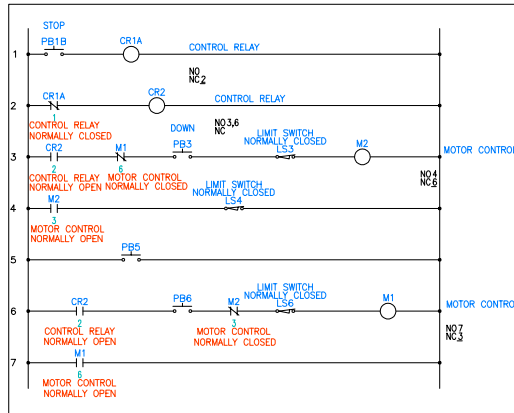

Figure 6-48 The copied components
12. Next, select limit switch LS3 from 3rd rung and copy it at **15,15**. Again, select LS3 and copy it at **16,13**. You will notice that the limit switch is inserted in rung 4 and rung 6. Keep the values in the **Description** area intact. Figure 6-48 shows the copied components